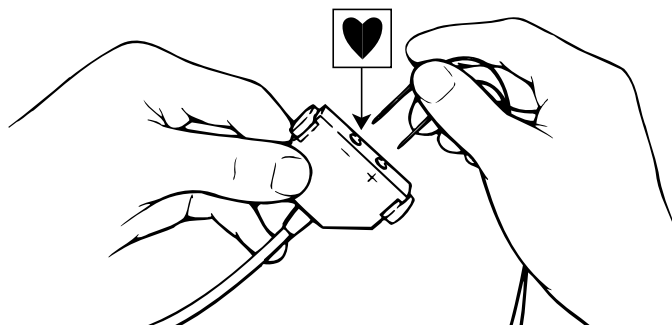

Figure 4-5. Connecting the pacing lead system to the Model 5433A or 5433V Patient Cable receptacles.
2. Insert the lead connector pins into the patient cable receptacles as shown (see Figure 4-5). It is important to connect each lead system to the appropriate patient cable (atrial or ventricular).